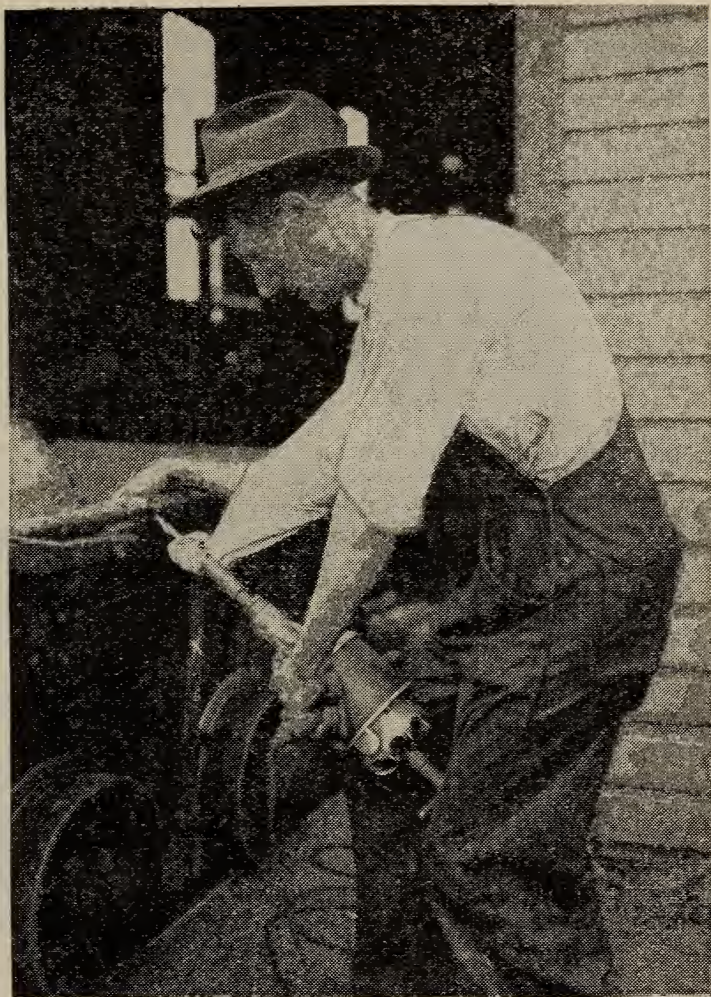

FIGURE 65.—Loose clothing worn near moving machinery is always a hazard.
Loose clothing should not be worn by men working around machinery (see fig. 65). Clothing should fit snugly and be kept tight against the body.
A. It may be caught in moving machinery. (See fig. 65.)